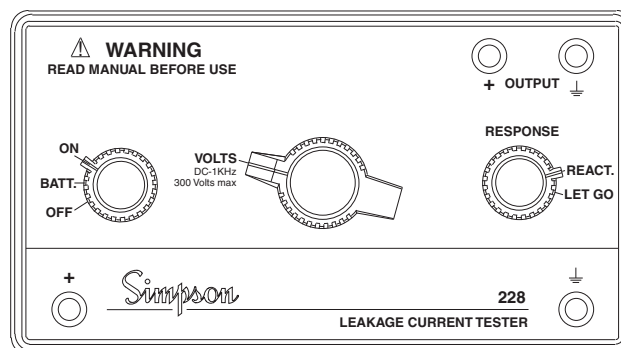

Figure 8
1. Turn the Instrument **Power Switch** to **ON** (see figure 8 below)